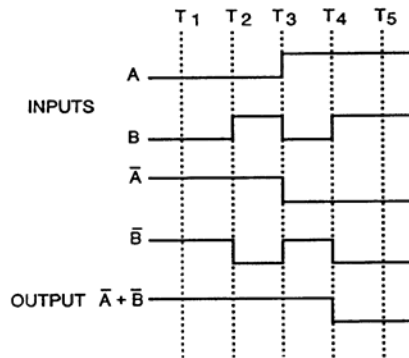

Figure Q-12. Waveform Analysis of NAND Gate
(3) From the truth table, you can see that this combination of gates will satisfy the definition of a NAND gate. Waveform analysis will show the same fact as shown in Figure Q-12.
(5) Therefore, as shown in Figures Q-12 and Q-13, $\overline{A} + \overline{B} = \overline{AB}$. A typical NAND IC would have the symbol shown in Figure Q-14.